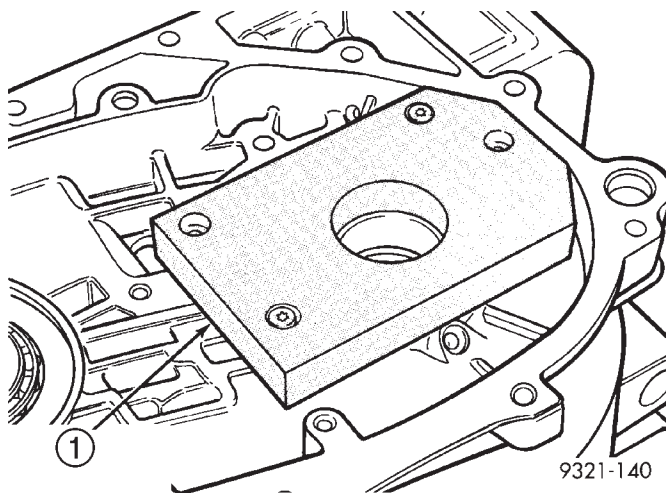

Fig. 306 Special Tool Installed
- (2) Install special tool 6618A (Fig. 306). Lightly tighten retaining screws. Screws should be below the plate surface, but do not snug screws.
- (3) Turn case over on arbor press so that the plate is resting on the press base